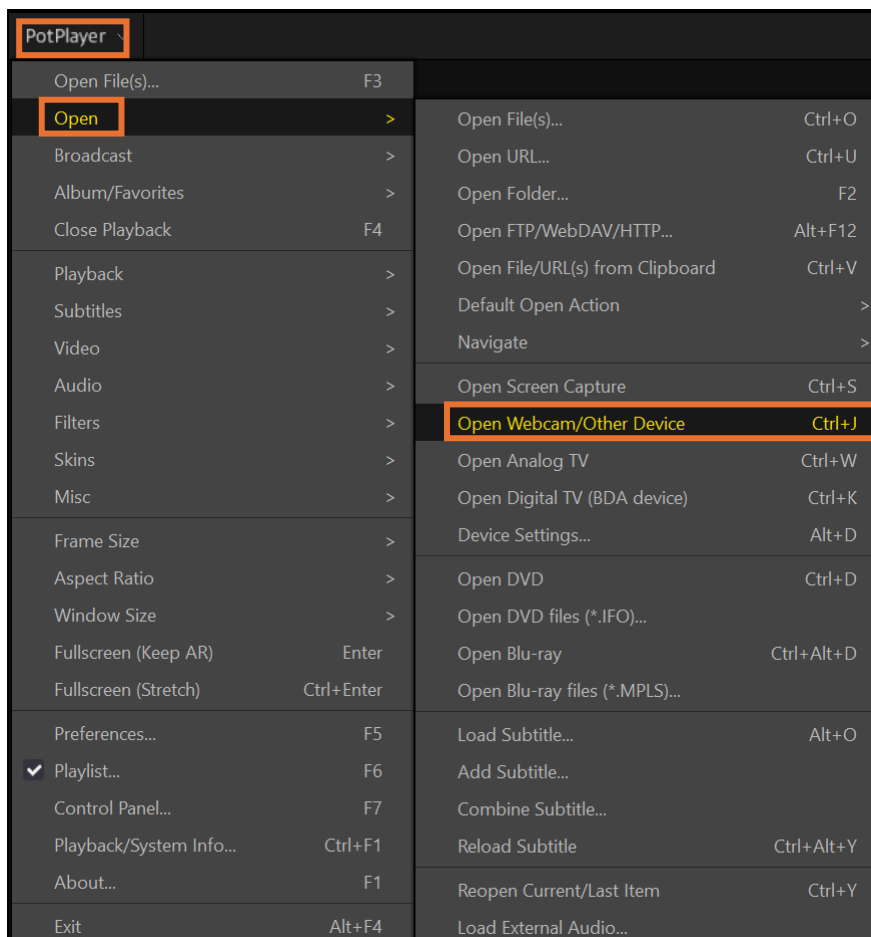

Figure 6.9. Open Webcam or Other Devices in PotPlayer
3. To open video, either hit the shortcut Ctrl+J or Click **PotPlayer > Open > Open Webcam/Other Device**, as shown in Figure 6.9.